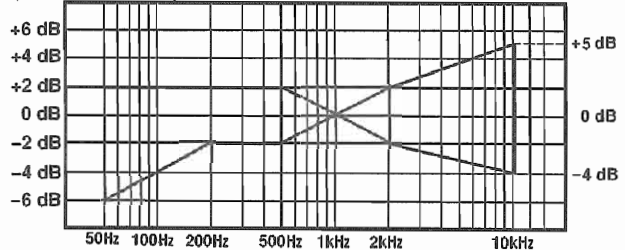

Fig. 13
6. With the output produced at 1 kHz as a standard, ensure the playback output levels (both left and right channels) at the individual frequencies stay within the range shown in Fig. 13.